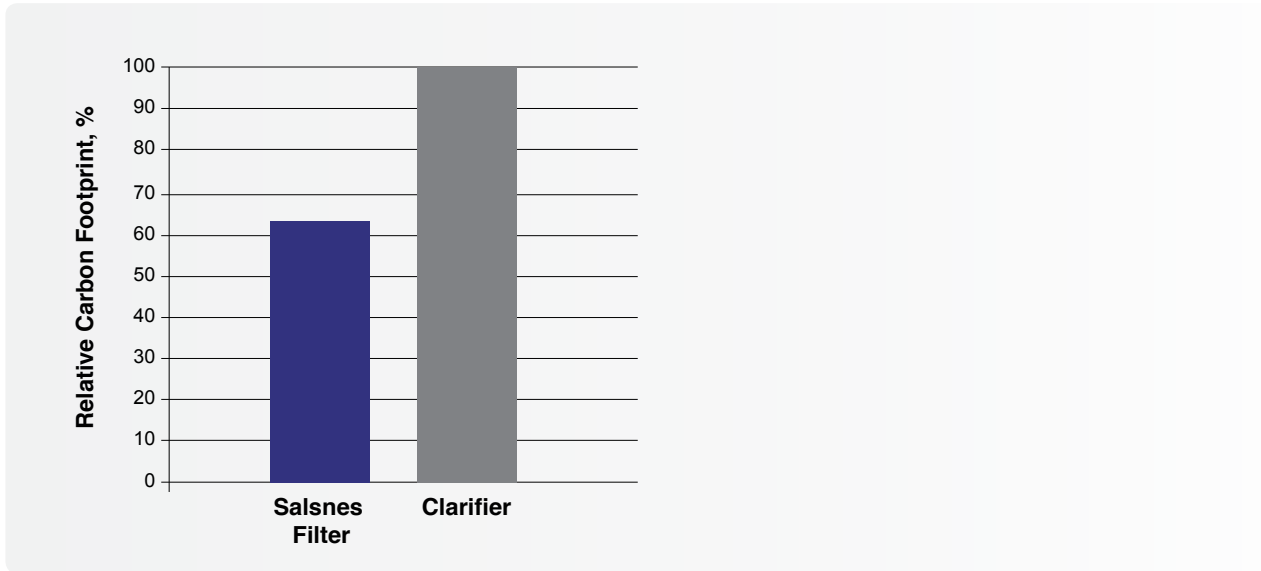

Figure 4. Carbon Footprint Analysis
- Less CO₂ produced during construction and operation. See **Figure 4**.